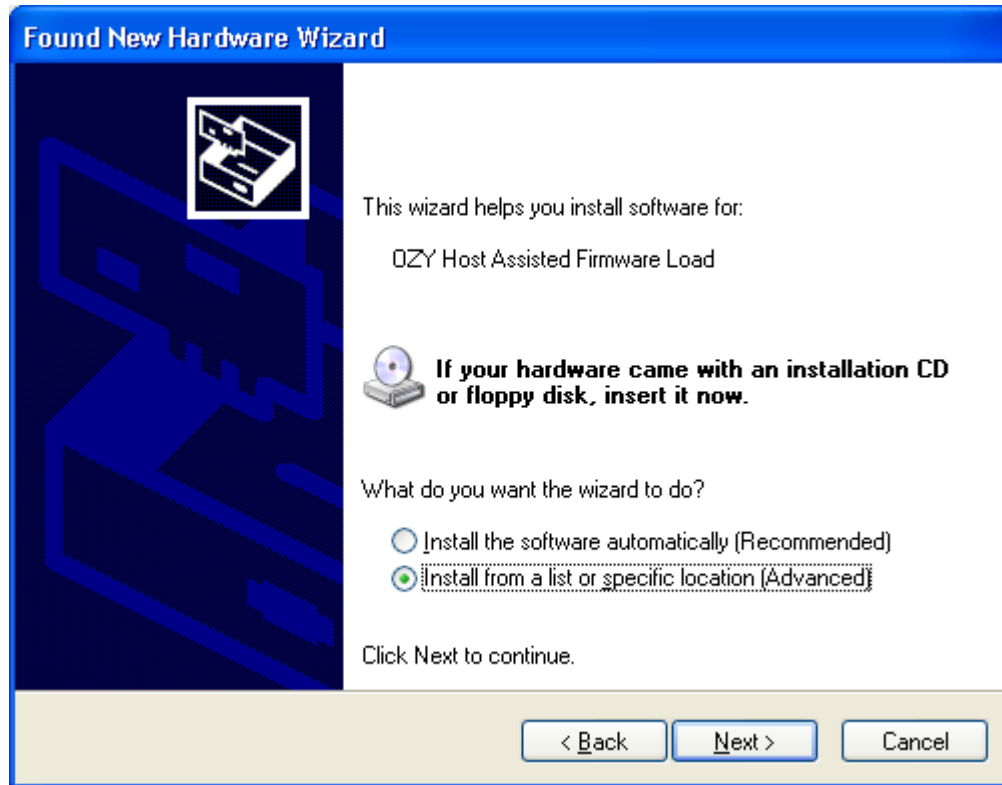

Fig 12: Found New Hardware - Install From a List or Specific Location
2. Select **Install from a specific location** and click **Next** (see Fig 12).